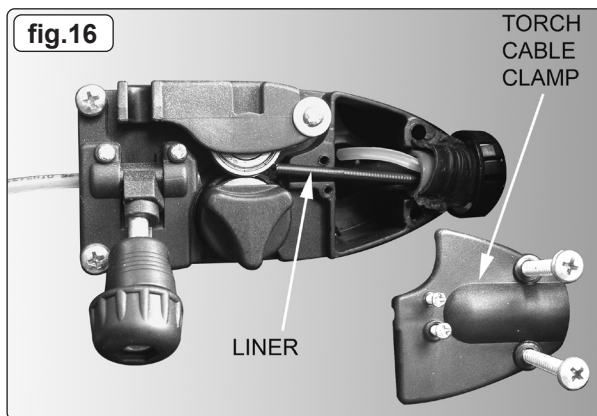
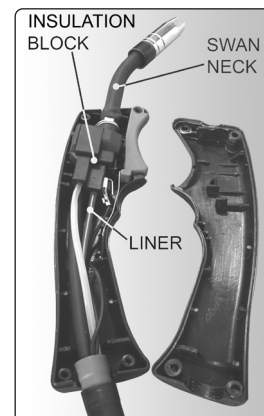

fig.16
fig.17
9.6.1. A worn or damaged wire liner will seriously affect the performance of the welder and should be immediately replaced. First wind the wire back onto the spool and secure it. Remove the four screws securing the torch cable clamp to the wire feed unit (fig.16) and take off the clamp. Undo the torch case (fig.17) and pull the wire liner from the insulation block. Pull out the liner from the torch cable and insert the new one. Reverse the process to re-assemble. Ensure the liner is fully inserted into the torch insulation block and reassemble the torch. Trim the other end of the liner as close to the feed roller as possible. Replace the torch cable clamp.